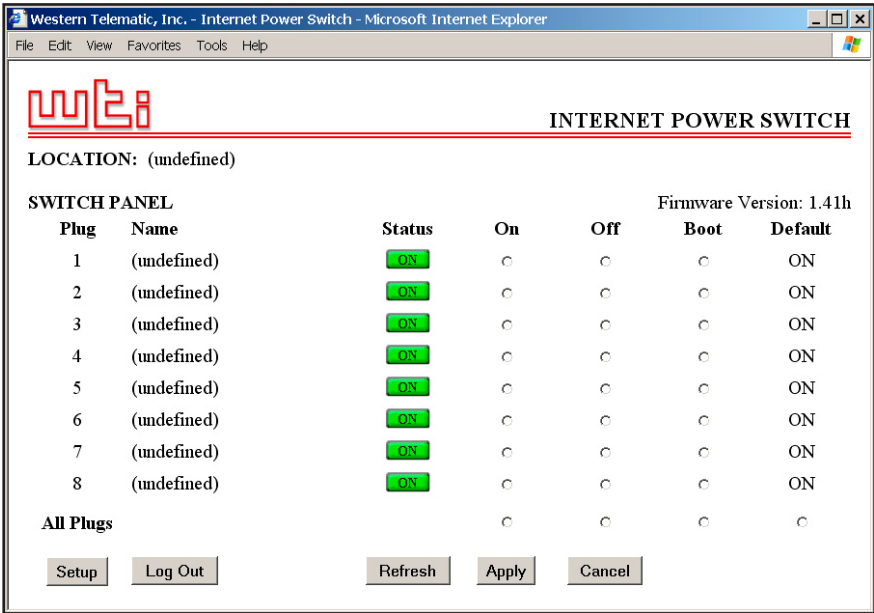

Figure 6.1: Plug Status Menu - Web Browser Interface (IPS-800 Shown)
When you login to the IPS command mode using the Web Browser Interface, the first screen that is displayed is the Plug Status Screen (or "Switch Panel".) The Plug Status Screen (Figure 6.1) lists the current On/Off status of the IPS's Switched Outlets and provides a series of "radio buttons" which are used to control On/Off/Boot switching of the outlets.
2. When the Plug Status Screen (Figure 6.1) appears, note that the screen includes a status field and switching and reboot controls for each of the IPS's Switched AC Outlets.